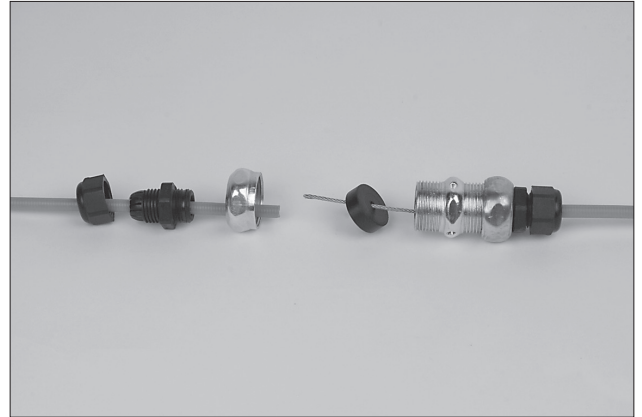

FIGURE 5-103
7. Install the strain relief nut, strain relief, and compression union nut on the remaining section of the flexible conduit and install the flexible conduit insert on the wire rope. See Figure 5-103.